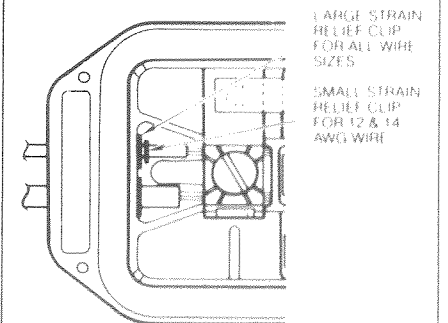

FIGURE 5
1. Use the strain relief clips as discussed under wiring (Reference Figure 5).
Both large and small sizes of strain relief clips are provided. For all sizes of wire, press a large strain relief clip in place as shown in Figure 5. Use a screwdriver to seat the clips. When they are installed, verify that the wire insulation has been slightly deformed by the clip.